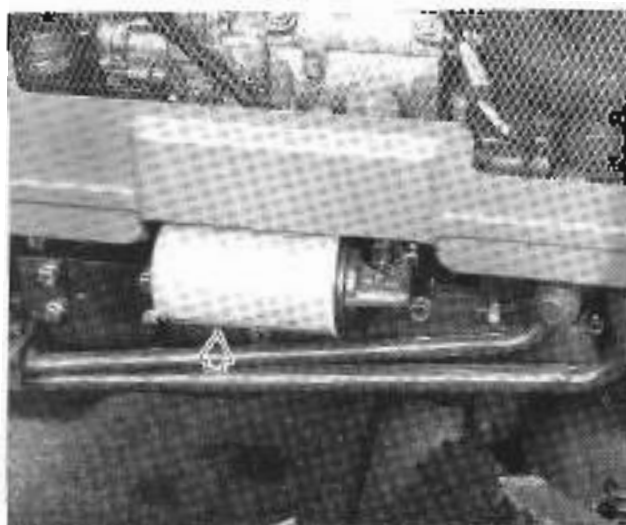

Figure 37 - Engine Oil Filter
2. Remove the oil filter, Figure 37, catching the used oil in a clean metal or plastic pan below the filter. Discard the filter.